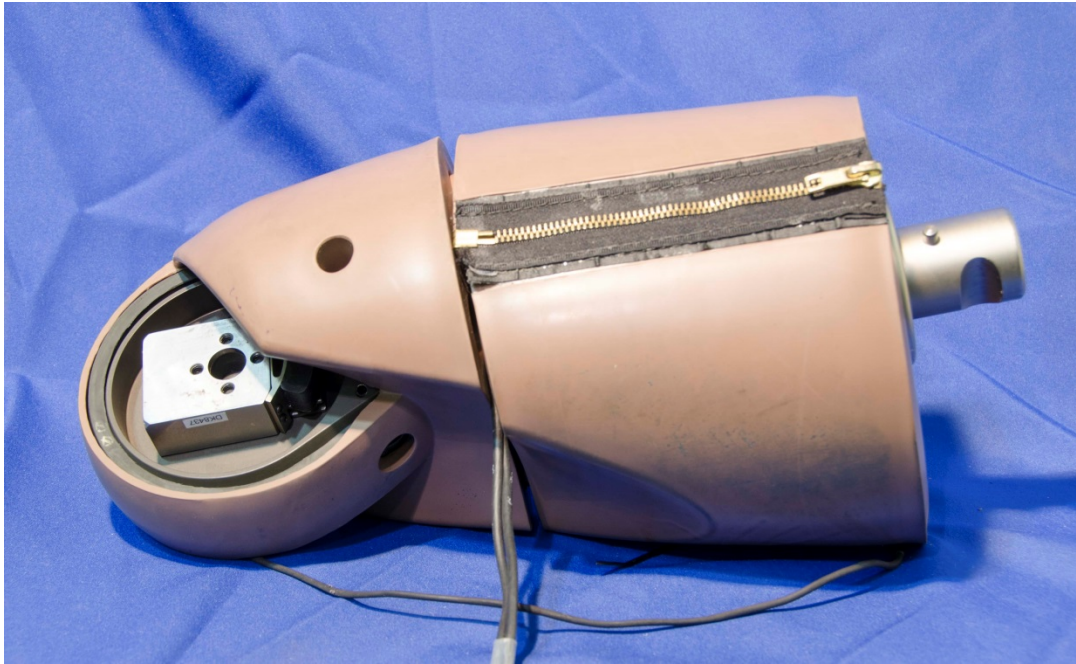

Figure 11-25. Thigh flesh installed
- 11.2.2.16 Install the Left Femur Thigh Flesh (472-5503-1) over the femur assembly by aligning the knobs on the end of the thigh flesh with the holes in the Knee Flesh (472-5502). Wrap the flesh around the femur assembly and secure it closed with the zipper. When installed correctly, the zipper should be outboard (Figure 11-25). Install the knee cover (472-5353) after attaching the lower leg.